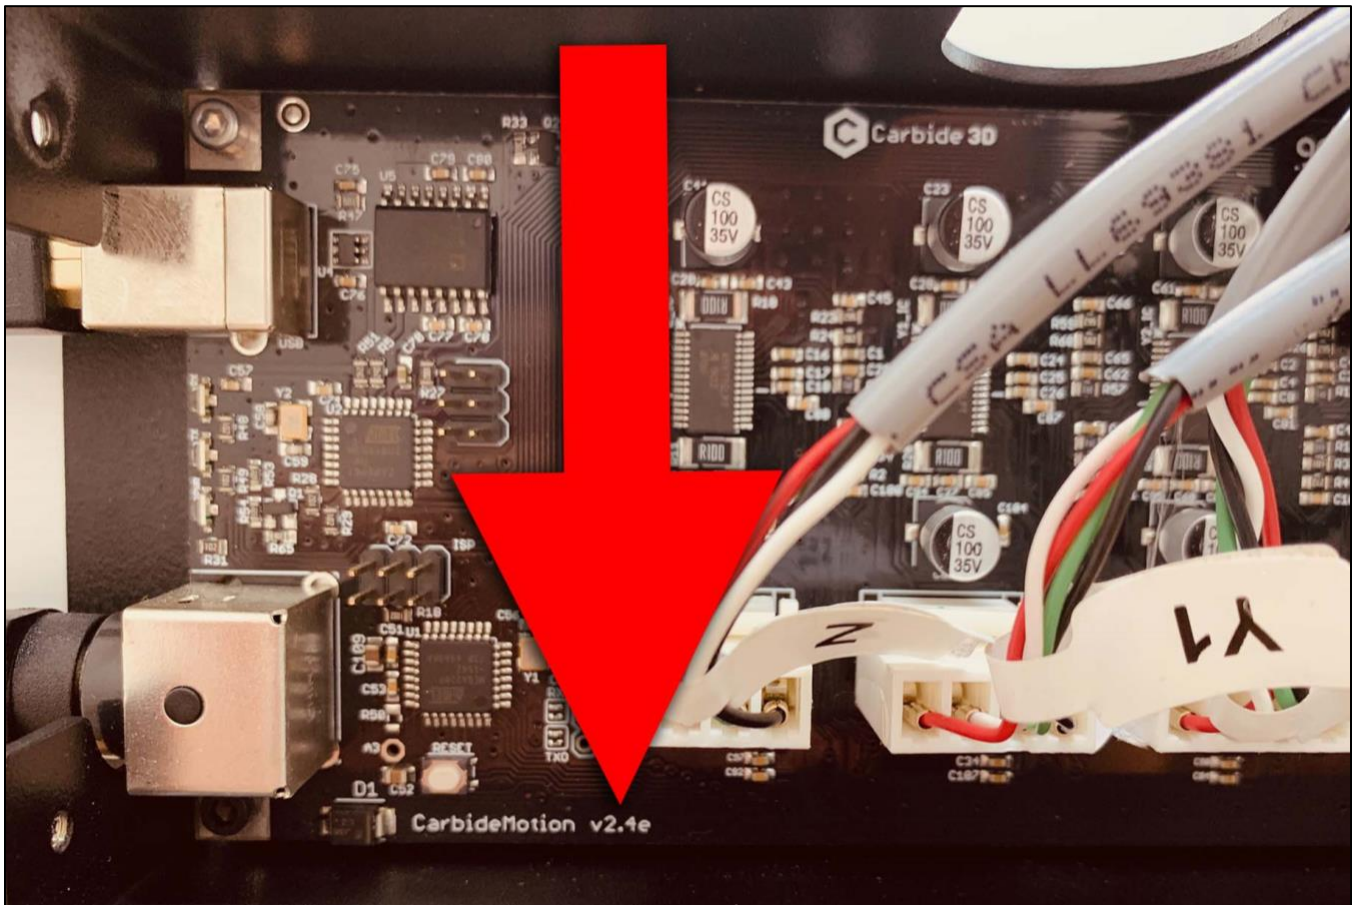

Figure 2
2. Look in the bottom-left corner of the PCB for the board version number. See *Fig. 2*.